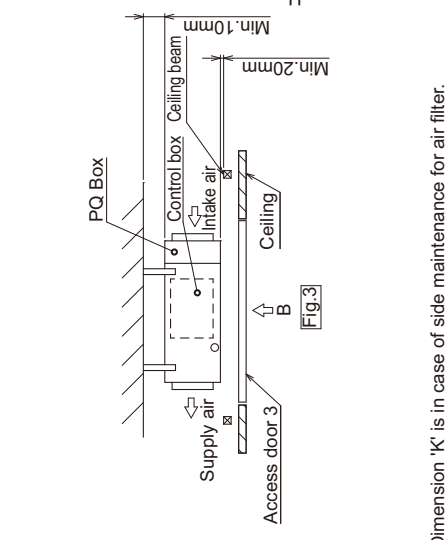

Fig.4 (Viewed from the direction of the arrow B)
• Create access door 1 diagonally below the control box and access door 3 below the unit as shown in Fig.4.
- Create access door 1 diagonally below the control box and access door 3 below the unit as shown in Fig.4.